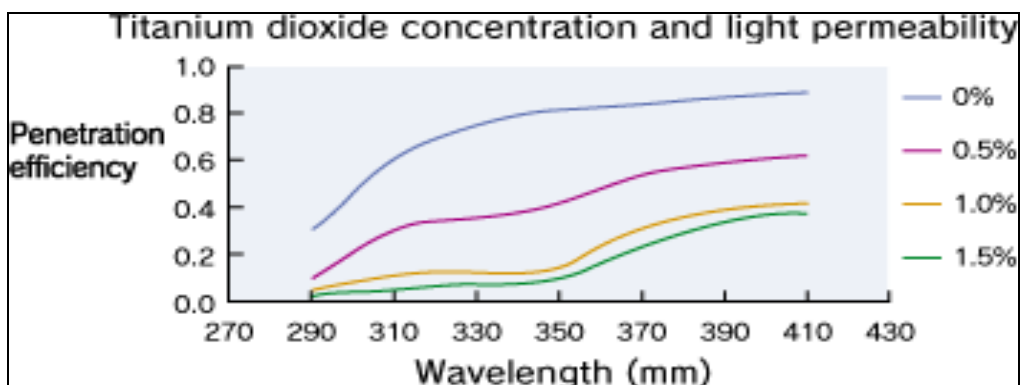

Figure 7: Light resistance with titanium dioxide ^[10]
E. Light resistance: Protection of substances which are reactive to light. Eg. Masking capsules and colored capsules. Light permeability (shell thickness 50~150 μ m). Titanium dioxide should be added with penetration efficiency limits shows in figure 7.